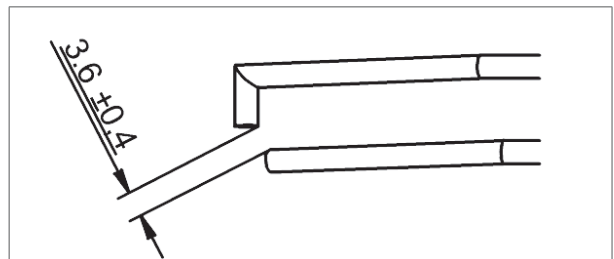

Figure 22 - Distance between the two electrodes
- b. The distance between the two electrodes should be  $(\pm)$  mm (figure 22).